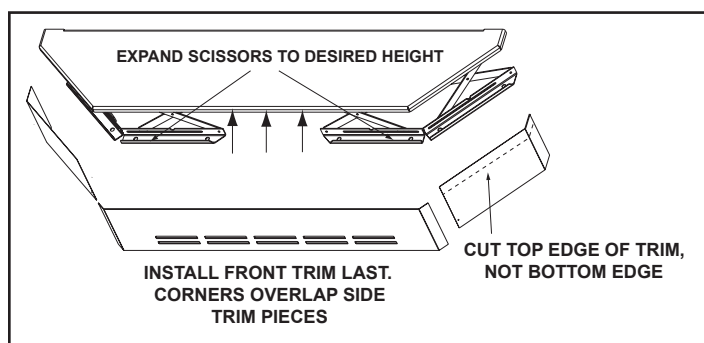

Figure 20.2
3. Measure front and side trims to required height to cover scissors and mark pieces for cutting. Cut excess material from **top** of trims edge, not bottom. This edge will be sharp; wear gloves to prevent injury to your hands. The cut edge fits under lip of top trim, so it allows for some variance in your straight edge. **Figure 20.2.**